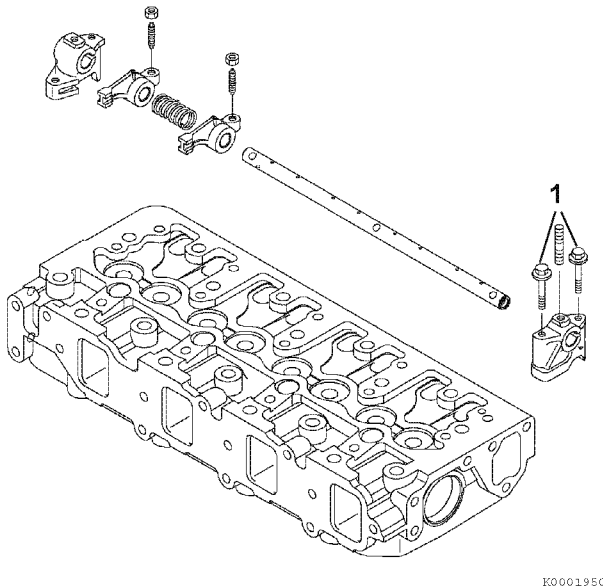

Figure 6-7
1. Remove the bolts (Figure 6-7, (1)) that retain the rocker arm shaft supports.